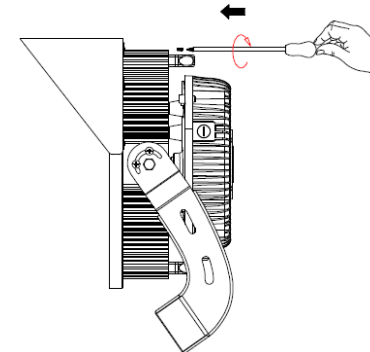

FIG. 4
- 3) Secure back using 6 screws. [Fig.4].